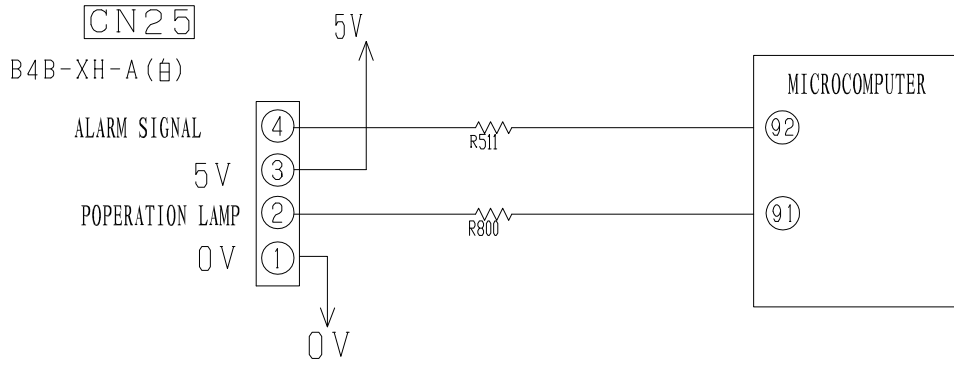

Fig.14-1
Fig. 14-1 is the control circuit of run status and signal output in main PWB. The pin ② of CN25 is used to show run status and the pin ④ of CN25 is used to warn people when failure occurrence. If customer want to use this function, need to use the adapter (sold separately) to achieve it. the adapter is optional and the detail circuit refer to following circuit.